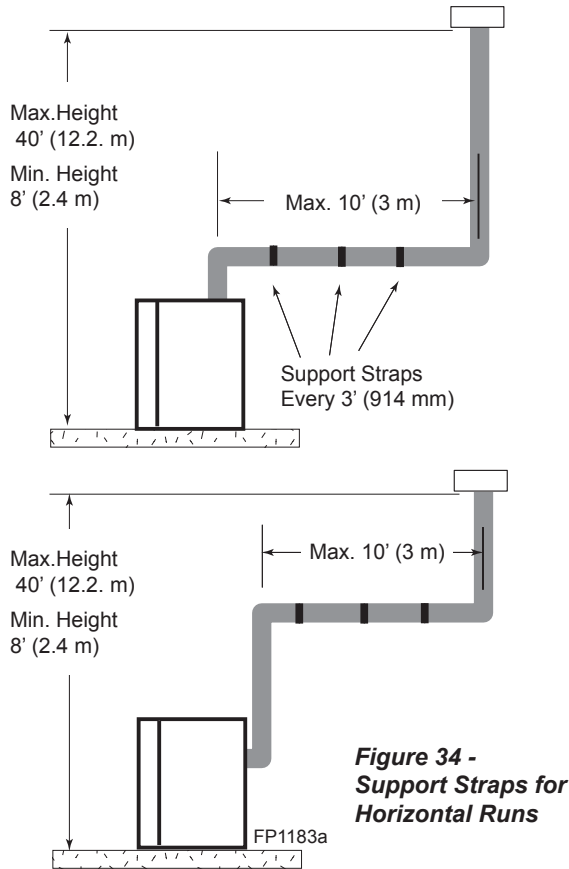

Figure 34 - Support Straps for Horizontal Runs
- Two sets of 45° elbow offsets may be used within the vertical sections. From 0 to a maximum of 8' (2.5 m) of vent pipe can be used between elbows. *Figure 34*